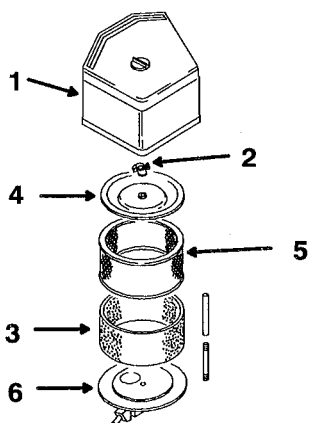

Figure 21
2. Clean around the air cleaner to prevent dirt from getting into the engine and causing damage. Unscrew the cover nut and remove the air cleaner cover (Fig. 21).
3. Remove the air cleaner assembly (Fig. 21).
4. Carefully slide the foam element off the paper element (Fig. 21).
1. Carefully slide the foam element onto the paper air cleaner element (Fig. 21).
2. Place the air cleaner assembly onto the air cleaner base (Fig. 21).
3. Install the air cleaner cover and secure with cover nuts (Fig. 21).